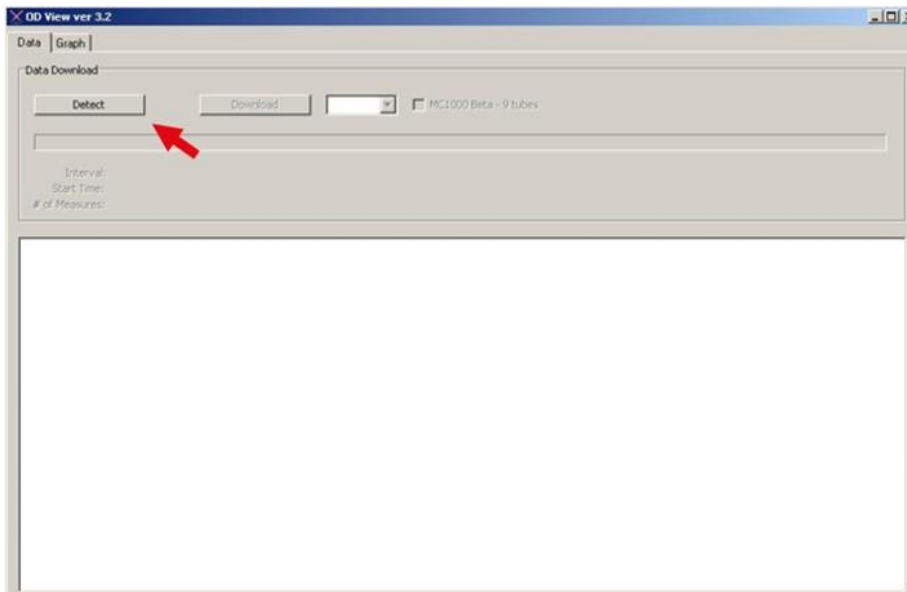

Fig. 24 The initial window of the ODView program.
65. Copy the ODView software from the Flash Disc onto the PC first. Run the software. The initial screen will appear as shown in Fig. 24.